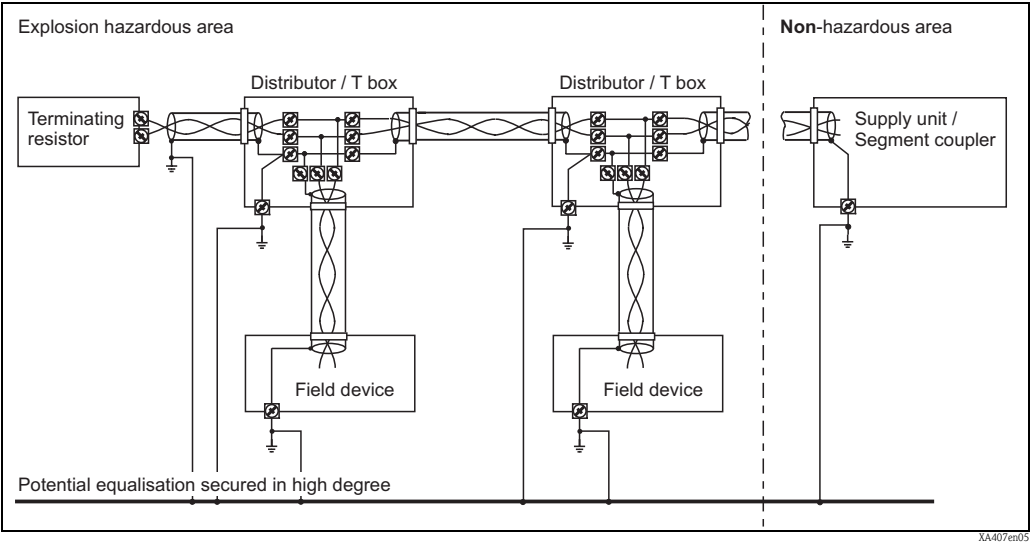

Fig. 5
- For earthing the screen see the following figure: 5 and 6.